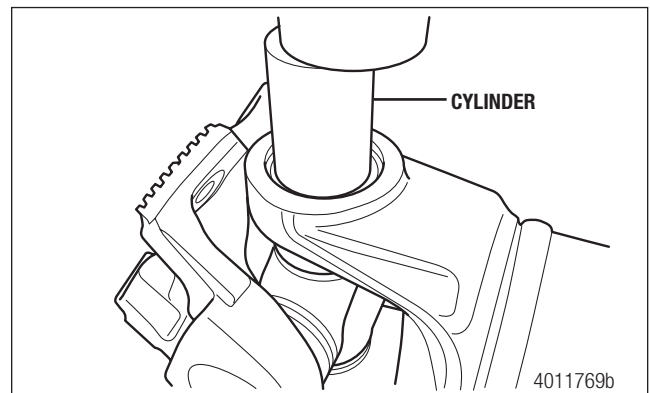

Figure 5.97
7. Install the cylinder to press the bushing/bearing assembly down so there is enough clearance for the snap ring to be installed. Figure 5.97.